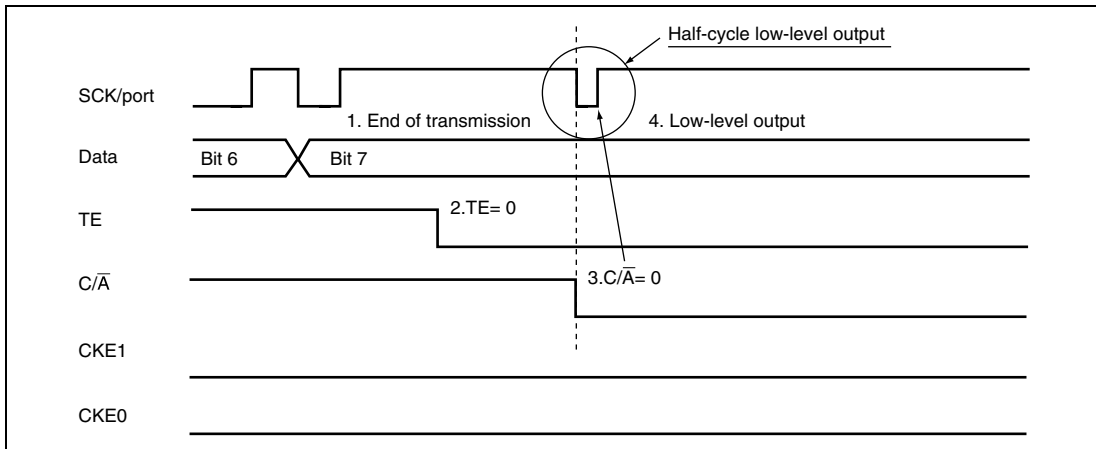

Figure 12.43 Operation when Switching from SCK Pin Function to Port Pin Function
4. Occurrence of low-level output (see Figure 12.43)